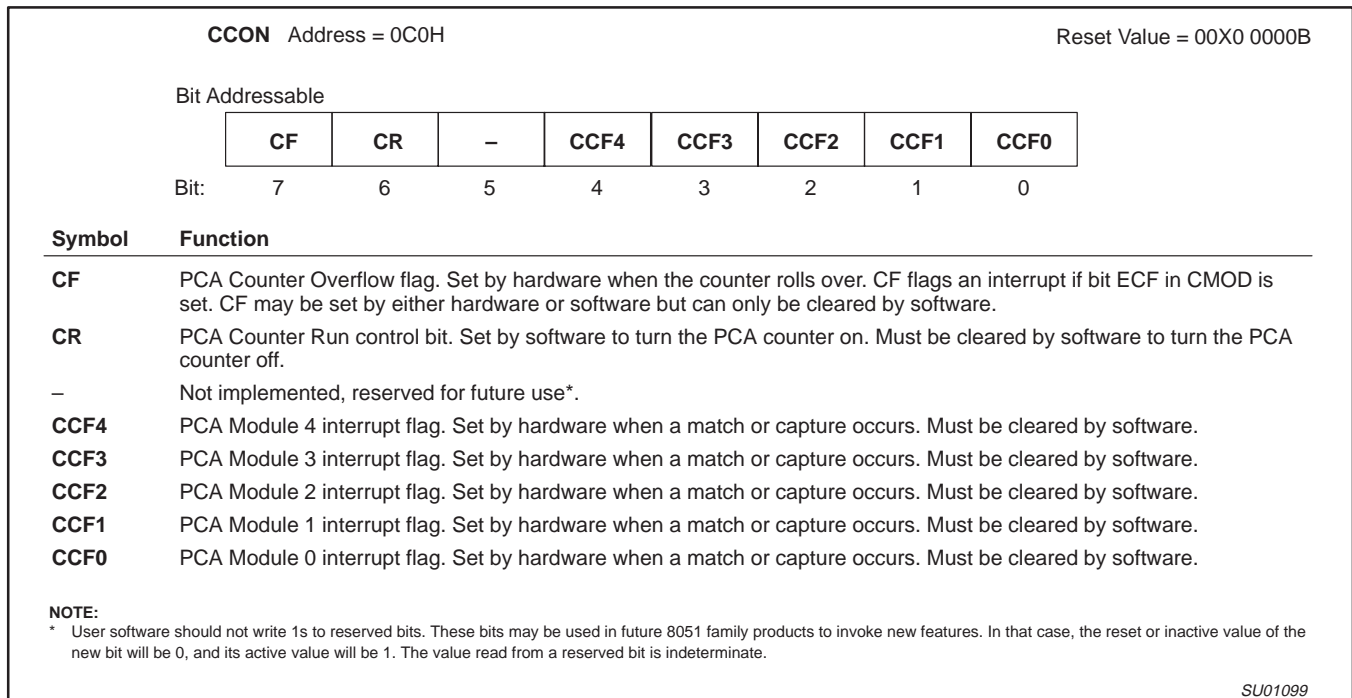

Figure 19. CCON: PCA Counter Control Register
The CCON SFR contains the run control bit for the PCA and the flags for the PCA timer (CF) and each module (refer to Figure 19). To run the PCA the CR bit (CCON.6) must be set by software. The PCA is shut off by clearing this bit. The CF bit (CCON.7) is set when the PCA counter overflows and an interrupt will be generated if the